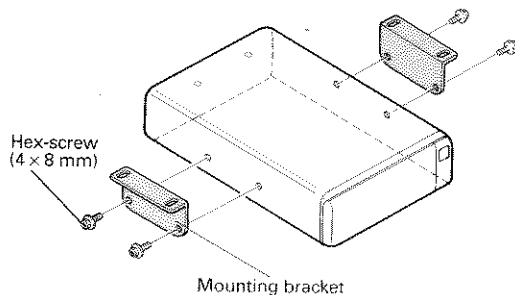

Fig. 8
1. Using the hex-screws (4×8 mm), fit the mounting brackets to the sides of the player so they face upward. (Fig. 8)